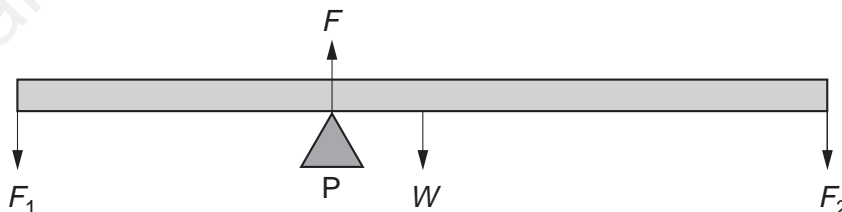

Fig. 5.1
- (b) Forces F_1 and F_2 are applied vertically downwards at the ends of a beam resting on a pivot P. The beam has weight W . The beam is shown in Fig. 5.1.
- (ii) The beam in Fig. 5.1 is in equilibrium. F is the force exerted on the beam by the pivot P.